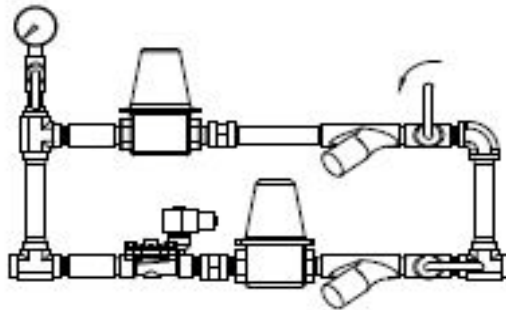

Figure 4-2 Water Bypass Valves
2. As shown in Figure 4-2, open the water bypass valves (2) in the cooling water supply piping or the emergency cooling supply.